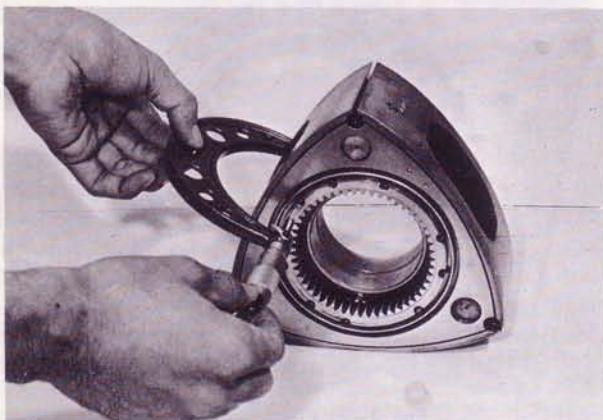

Fig. 1-37 Checking rotor width
5. Check the gap between the side housing and the rotor by measuring the rotor housing width and rotor width. The rotor width should be measured at 3 points as shown in Fig. 1-37.